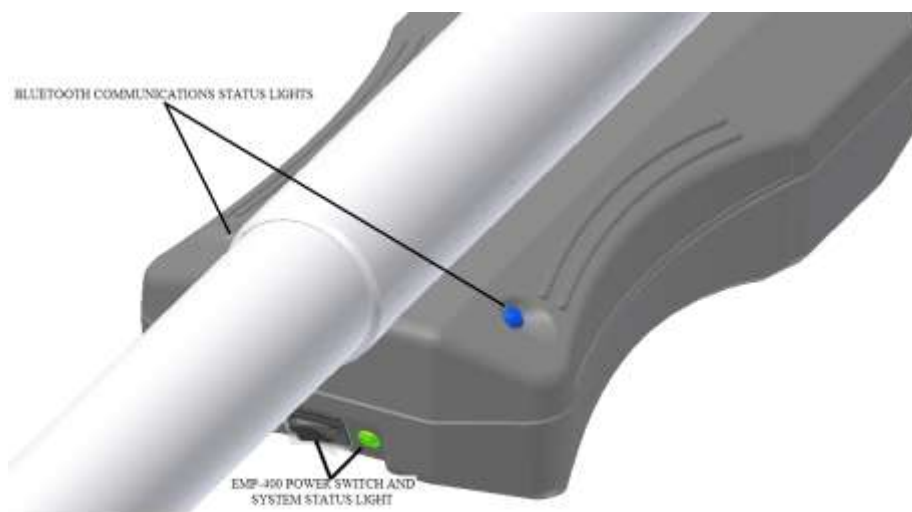

Figure 3: EMP-400 top view showing the location of the system power switch, Bluetooth communications status and system status lights.
The EMP-400 has no external connectors or I/O ports. An expanded view of the EMP-400 electronics enclosure is illustrated in Figures 3 and 4.
4. The system can now be turned ON by depressing the EMP-400 power button located at the front of the EMP-400 electronics assembly (Figure 3). The **Green** power LED should illuminate. This indicates that the EMP-400 is receiving power from the battery pack and that the voltage level of the batteries is sufficient to operate the system.